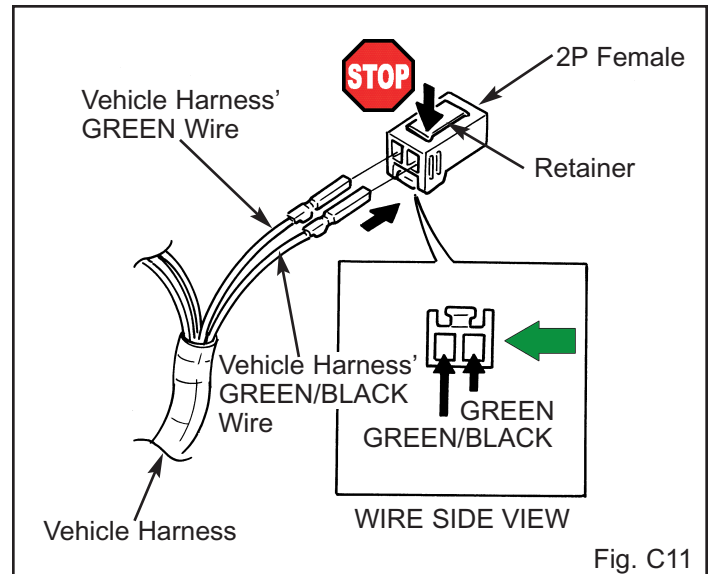

Fig. C11
22. Insert the terminal at the end of the vehicle harness' GREEN/BLACK wire into the left side opening of the empty 2P connector. (Fig. C11)
23. Insert the terminal at the end of the vehicle harness' GREEN wire into the right side opening of the empty 2P connector. (Fig. C11)
24. Close the retainer of the 2P connector. (Fig. C11)